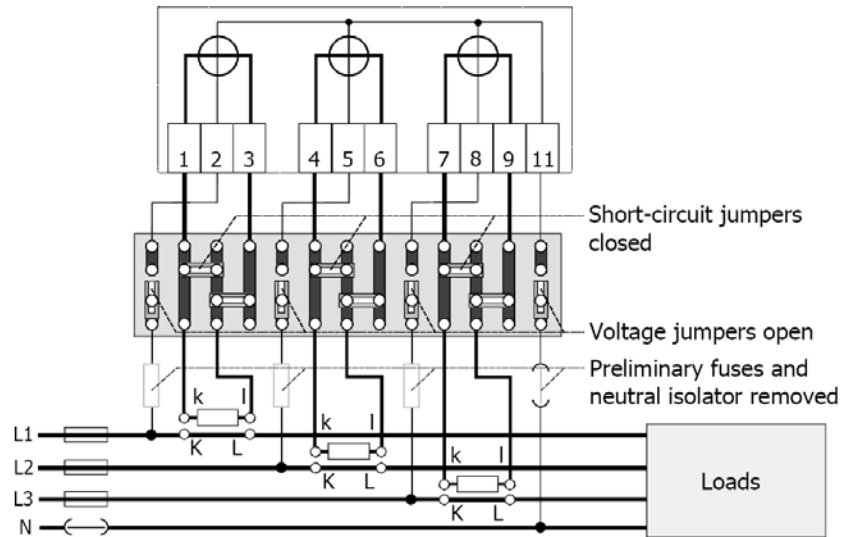

Figure 63 Condition of test terminal block before removing meter (terminal layout according to DIN)
4. Check that the connecting wires are not live using a phase tester or universal measuring instrument. If not, check the condition of the test terminals again according to figure 63. Remove the relevant supply fuses if necessary and ensure that they cannot be re-inserted by anyone unnoticed before completing the installation.